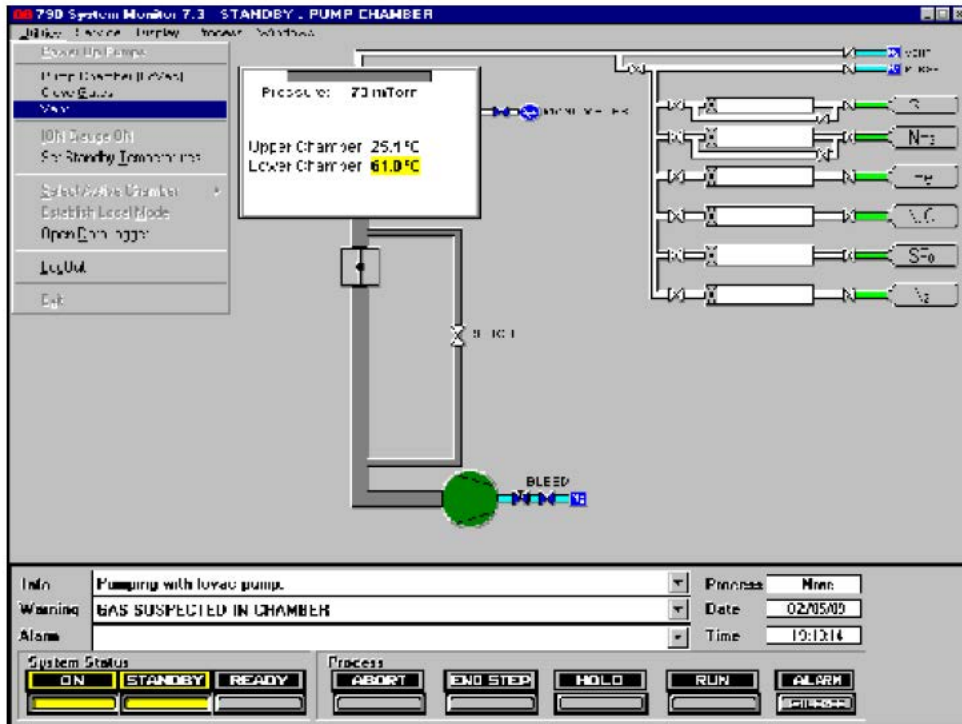

Figure 1: Venting the process chamber (Screenshot is not exactly like on our tool)
3. Vent the system by selecting 'Vent' in the Utilities drop-down menu. Wait for the system to indicate 'Atmosphere' in the schematic (it turns from red to cyan). See figure 1.
17. In the Utilities menu select 'Vent'. Wait for the system to indicate 'Atmosphere' in the schematic (it turns from red to cyan). See figure 1.